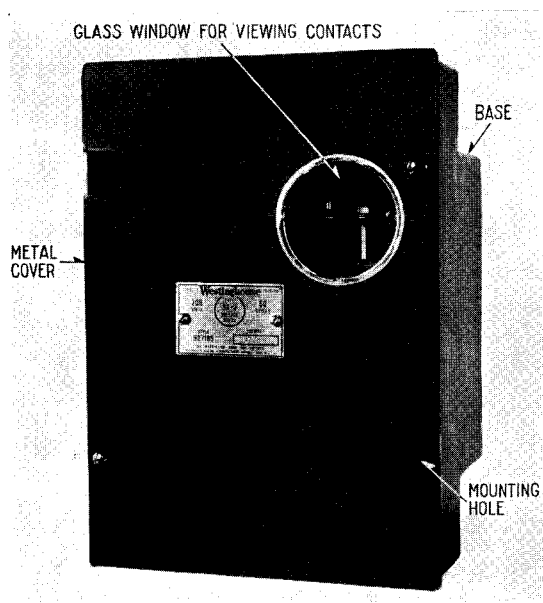

FIG. 1—Type SR-2 VOLTAGE RESTRAINING RELAY, FRONT VIEW WITH COVER ON.
1. The type SR-2 voltage restraining relay shown in Figs. 1 and 2 is a three phase voltage device used to make the type CN-33 relay insensitive to small power reversals under normal system conditions and sensitive under short-circuit conditions. The type SR-2 relay consists of a single plunger type voltage relay, a positive sequence voltage filter, and three tapped resistors all mounted in one case. The plunger type relay is a high drop-out over-voltage relay which closes two sets of silver contacts when it picks up. The two moving contacts are connected together so that they are electrically one. Weights are added on the bottom of the movable plunger to vary the minimum voltage at which the contacts close. A number of extra weights are located in the relay case to be used in adjusting the pick-up voltage should it be desired to change the standard setting of the relay. The positive sequence voltage filter consists of an autotransformer tapped at approximately its mid-point, a resistor, and a reactor. The resistor and reactor in series have a combined impedance angle of  $60^\circ$ . The voltage drop across the resistor is equal in magnitude to the
FOR ILLUSTRATION OF PARTS SEE FIGS. 1 AND 2